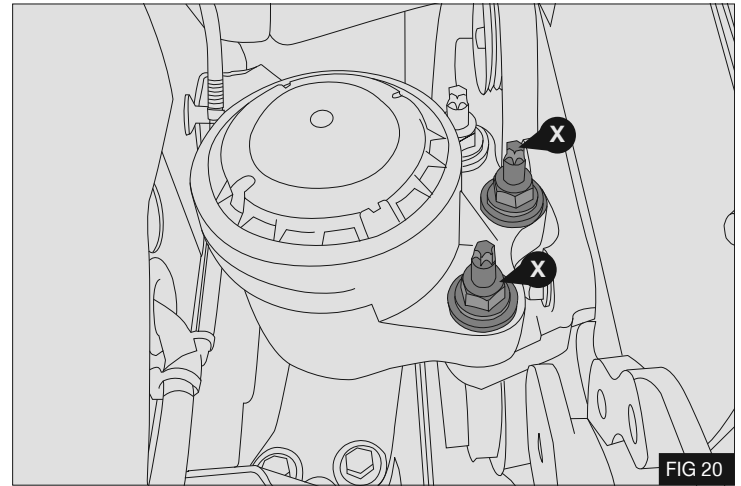

FIG 20
1. Remove and discard the 2x studs (X) from the engine mount
- Fig 20